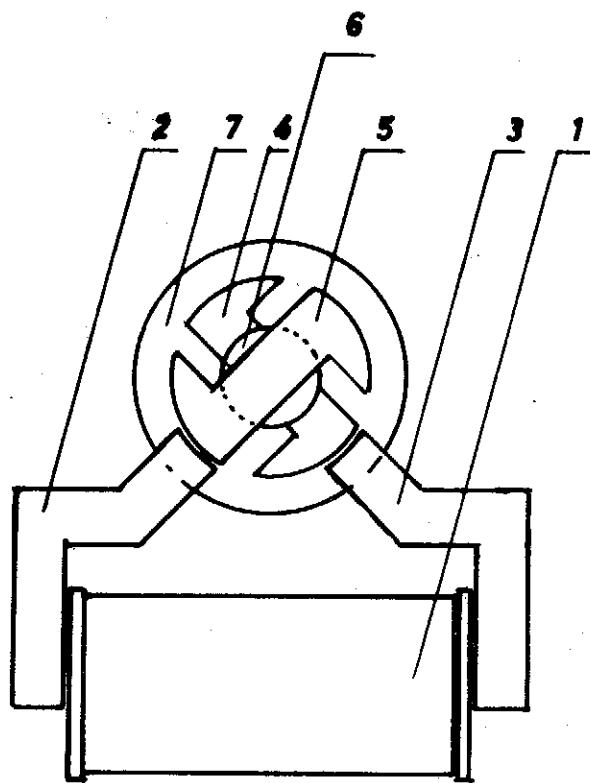

Fig. 1.
Slave movement, Fig. 1 (for minutes or seconds) consists of an electro-magnet in the form of a coil (1) with a soft iron laminated core (2 & 3). The ends of the core are imparted magnetic polarity according to the direction of the current passing through the coil. The armature consists of two Z-shaped soft iron pieces (4 & 5) between which a permanent magnet (6) is located. Part 4 becomes the North and Part 5 the South pole of the magnet permanently.